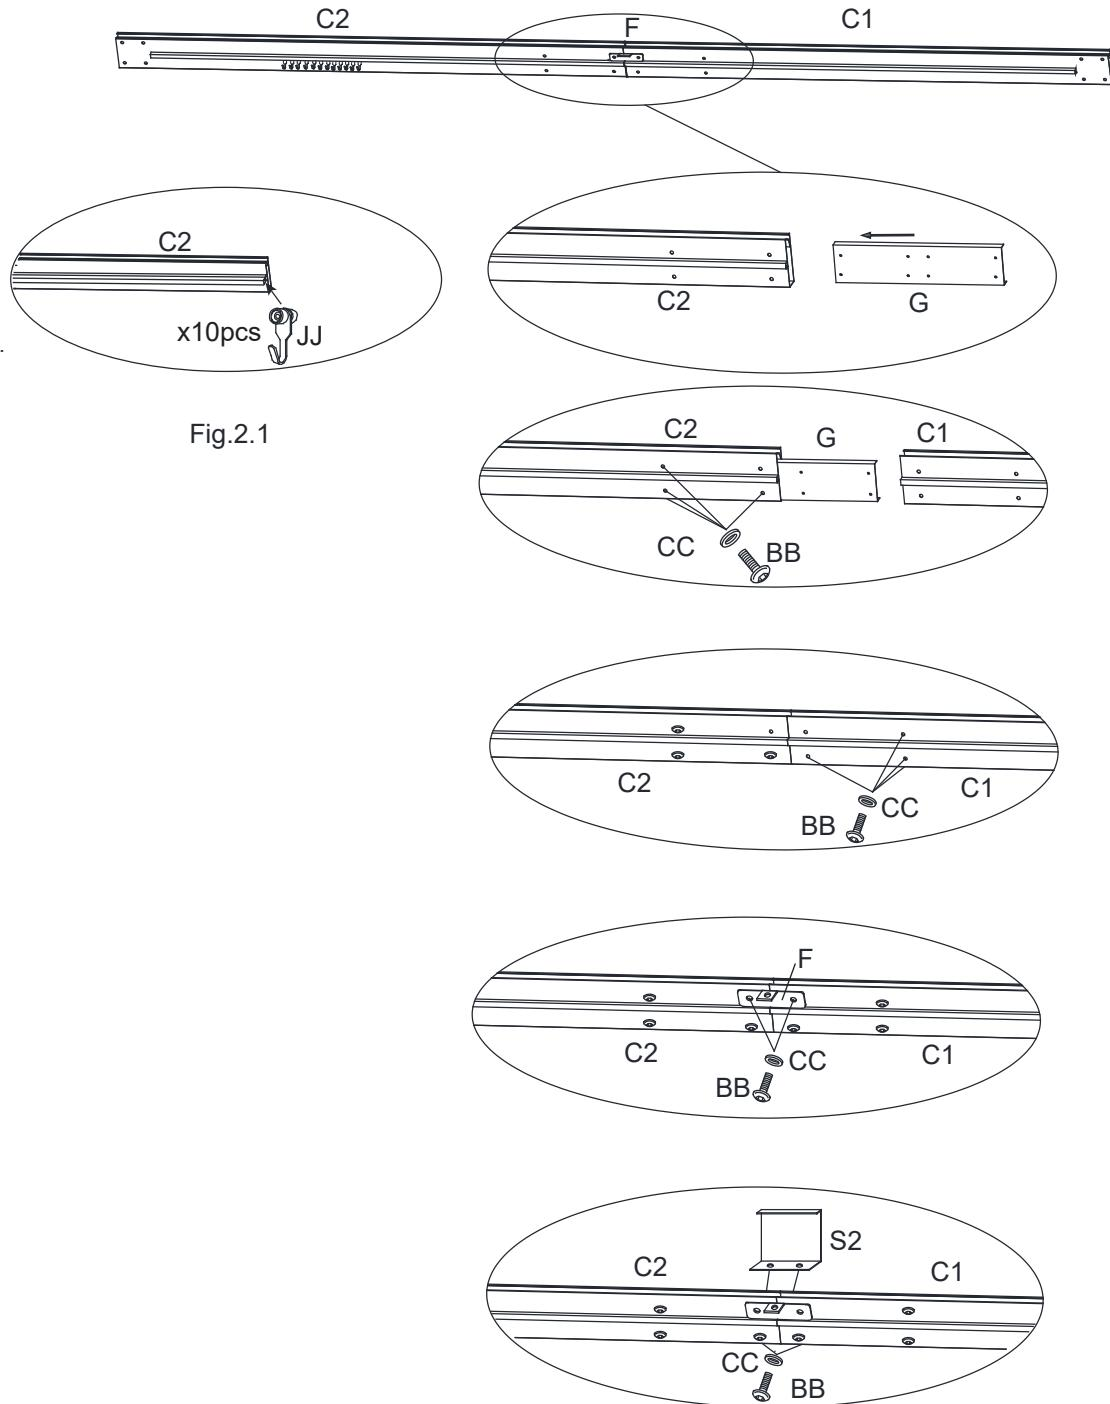

Fig.2.2
2.2. Connect the Short Left Lintel (C1) with the Short Right Lintel (C2) through the Lintel Connector - Large (G) by bolt (BB) and washer (CC), then connect the Connector (F) to the joint of the lintel (C1/C2) by bolt (BB) and washer (CC) , put the Lintel Cover - Center (S2) onto the joint of the two lintels with bolt (BB) and washer (CC), pay attention to install the screws based on the orders shown in the illustration. See.Fig.2.2